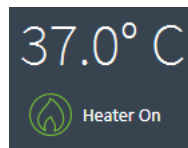

Figure 10 Temperature widget.
- 1 Click the temperature widget. (See **Figure 10**.)